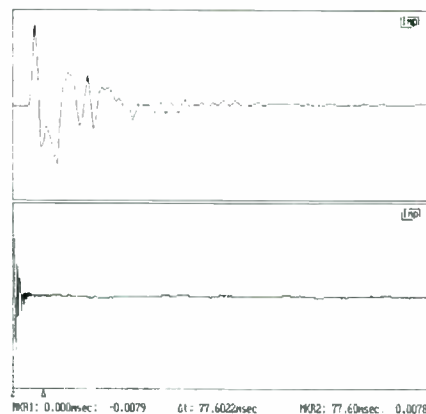
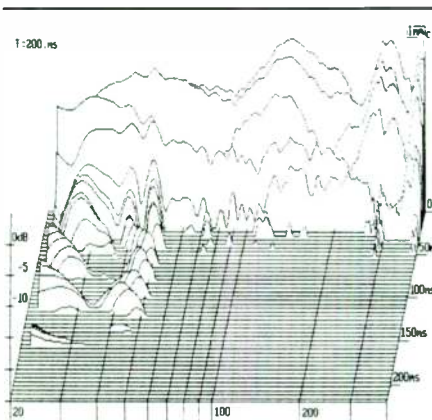

FIGURE 18: IMP near-field time response waveform, dual 8" drivers X on original waveguide.
FIGURE 20: Waterfall plot for dual drivers X on original waveguide.
I returned the modified waveguide structure and new attachments to the back room for more IMP testing. Would IMP show any difference in the waveguide structure performance now that it was stiffer? Figure 18 shows the near-field (NF) time response from IMP with dual 8" drivers X on the orig-
Figures 20 and 21 show the waterfall (cumulative spectral decay) plots for the time waveforms in Figs. 18 and 19, respectively. These waterfall plots are a bit different from what you normally see in speaker test reports; they show a 25dB vertical range but cover a 200ms time period to look for delayed effects. The modified waveguide structure is surely much cleaner after 50ms. Is this enough improvement? Only listening will tell.